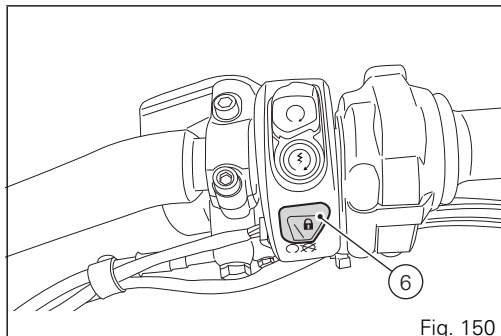

Fig. 150
Key-On can only occur in the presence of one of the two keys (3) or (4) or using the pin code. Key-Off can also occur without any key (3) or (4). Key-Off occurs when motorcycle speed is equal to zero, by pressing button (6, Fig. 150) on the handlebar or by pressing the Hands free button (7). When speed other than zero, perform key-off by pressing the Hands free button (7).